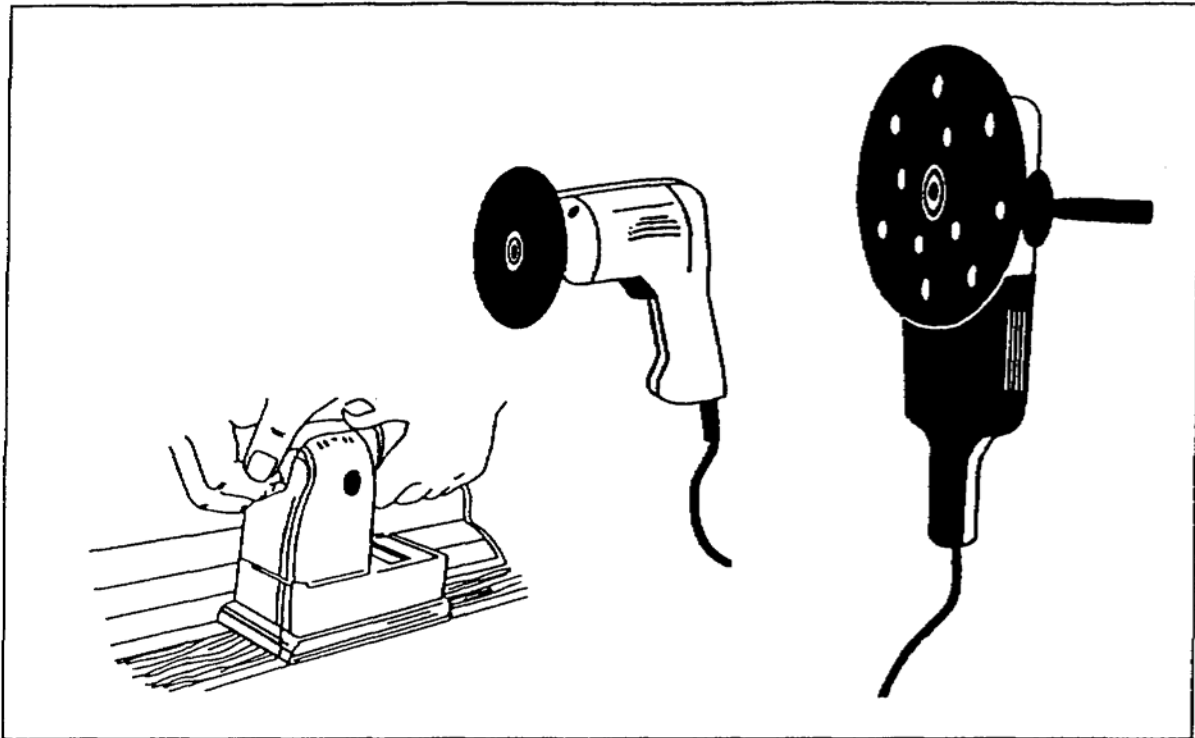

Figure 3-15. Portable disc sanders
(3) Portable disc sander. Use a portable disc sander (Figure 3-15) on metal surfaces or to remove badly flaked paint on wood surfaces. One type fits the chuck of an electric drill or a power tool. The sander's abrasive discs come in various grits for various tasks and are easily replaced.